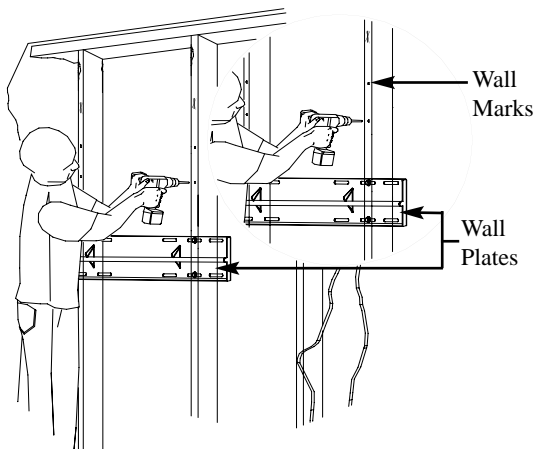

Figure 13
1. Drill four (4) 1/4" pilot holes in the marked wall (Figure 13). These pilot holes will be for the upper mounting bracket.